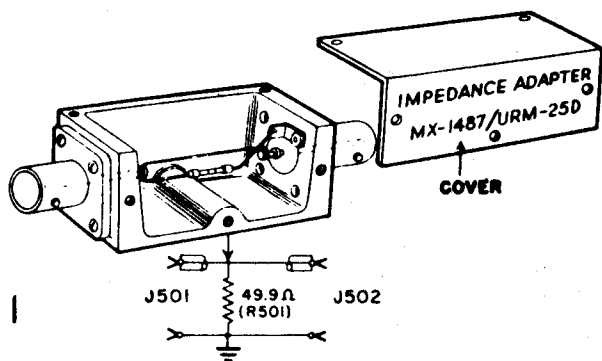

Figure 4-3. Impedance Adapter MX-1487/URM-25D
(1) Follow steps for internal modulation; except step (1).
(2) Audio voltage proportional to reading on M101 is available at EXT MOD IN jack (J105). When the meter reads "50", approximately 2.5 volts open circuit are available.
b. Set MOD-XTAL & METER SELECTOR knob (117) to EXT position.
a. When the 50 ohm cable assembly (W104) is plugged into the X-MULT RF OUTPUT jack (J102) and terminated properly (50 ohms), no standing waves will be present. An impedance adapter MX-1487 URM-25D consisting of a 50 ohm composition resistor (R501), contained in a rectangular aluminum case (figure 4-3)